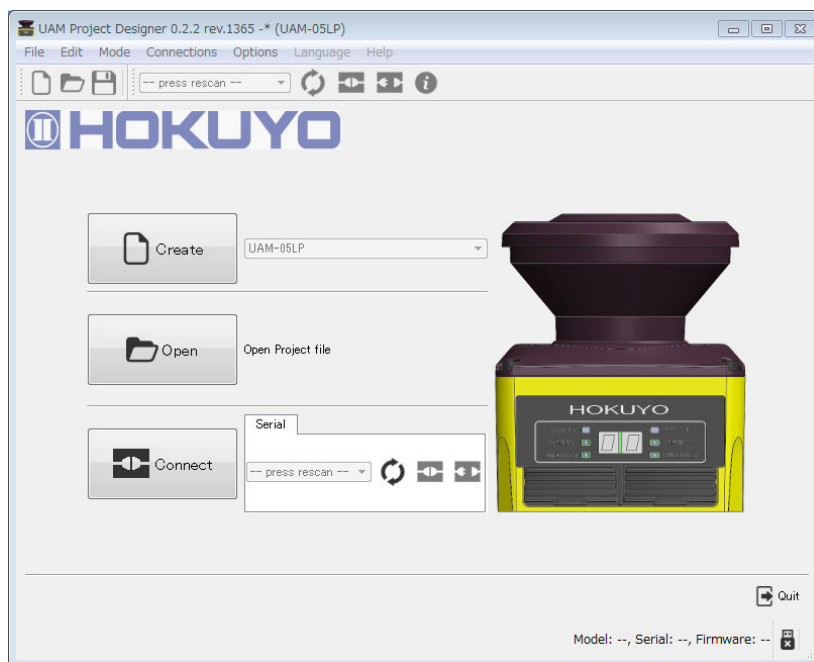

Figure 7-17 Main window
- a) Main window as shown in figure 7-17 will be displayed when UAM project designer starts.